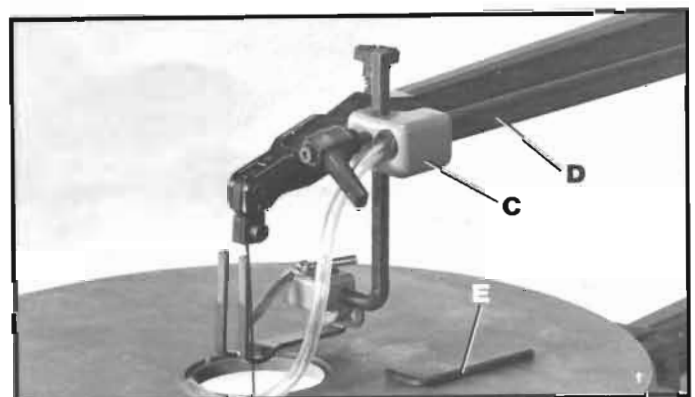

Fig. 4
2. Slide holddown assembly bracket (C) Fig. 4, onto rod (D) as shown, and tighten two screws located underneath bracket (C) using wrench (E) supplied.